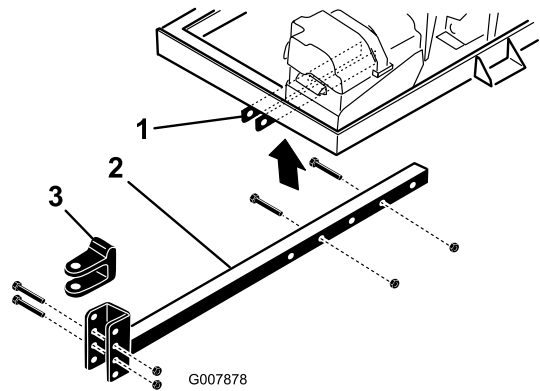

Figure 4
2. Insert the hitch tube into the frame brackets (Figure 4). Secure the tube to the frame with 2 bolts (3/8 x 3 inches) and flange nuts (3/8 inch) and torque to 40 N-m (30 ft-lb).
- Remove the bolts and locknuts securing the hitch clevis (Figure 4) to the hitch tube.
- Remove the bolts and nuts securing the hitch tube to the frame brackets (Figure 4).